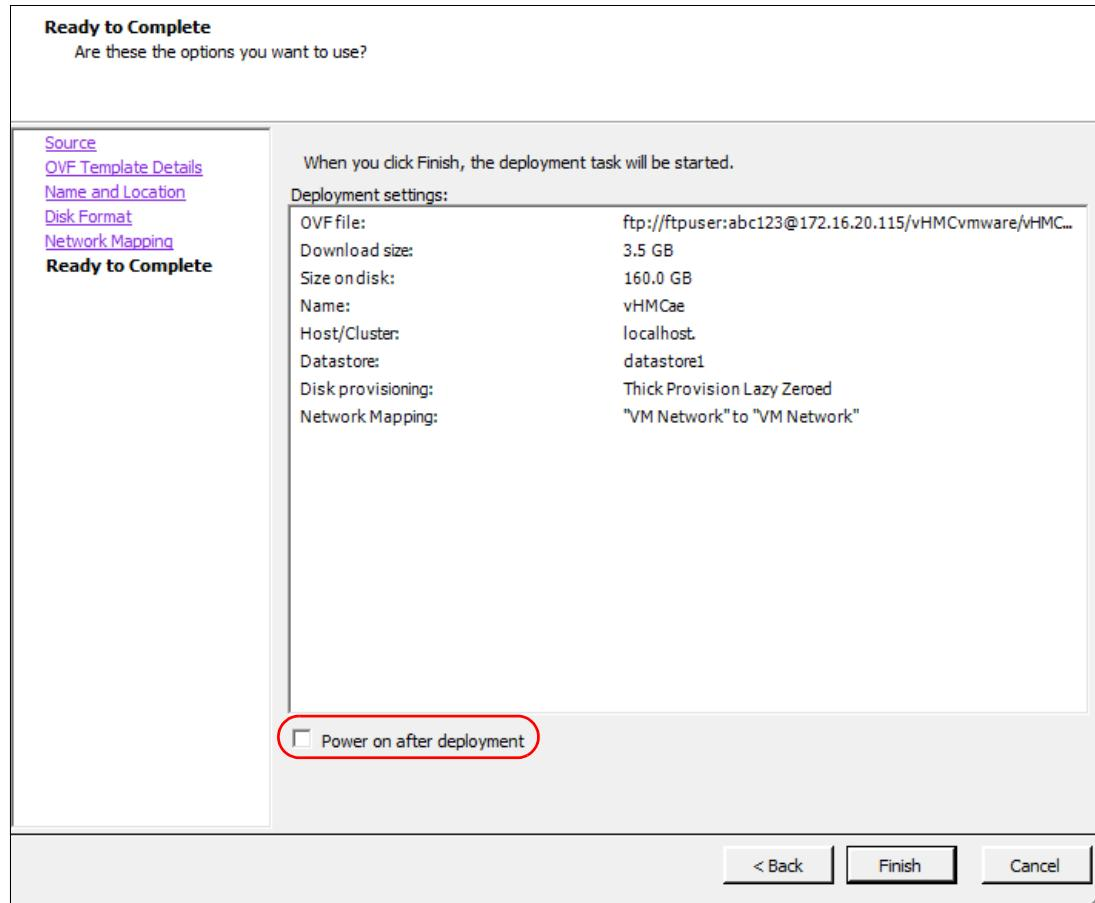

Figure 3-58 Ready to Complete
12. In the Ready to Complete panel (Figure 3-58), *do not select Power on after deployment*, because you will be changing several settings later. Click **Finish** to create the VM.